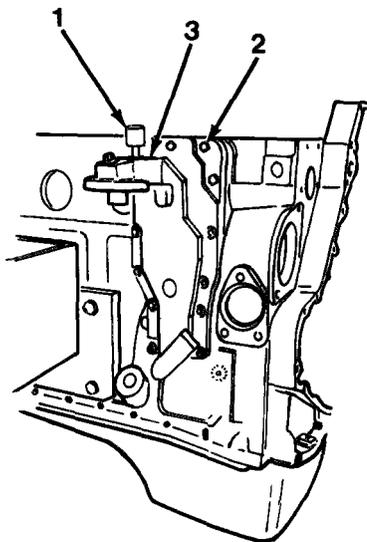

Figure 6-1
2. Install oil pressure switch (1, Figure 6-1).